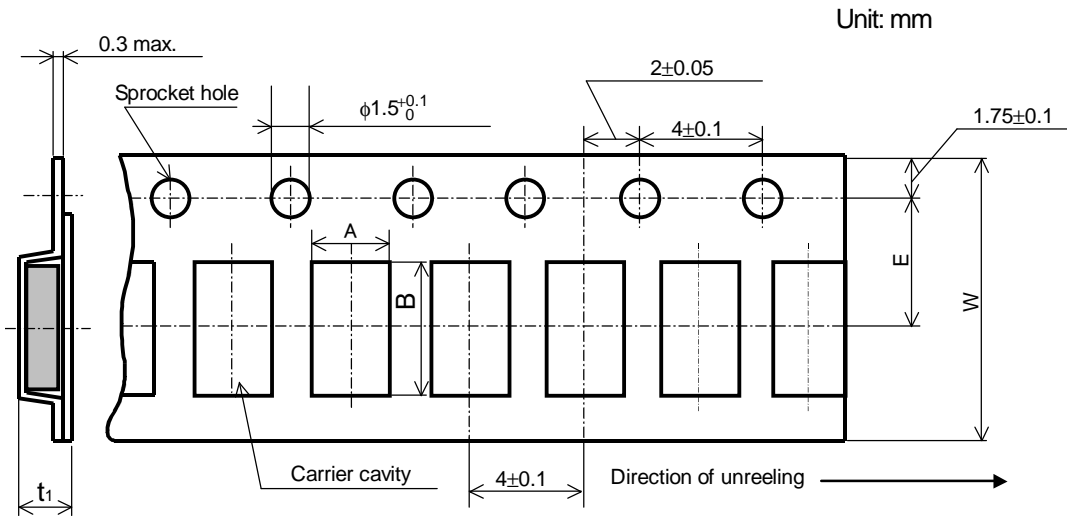

Figure-5
9.2.3 Embossed tapping dimensions shall be in accordance with Figure-5 and Table-7.